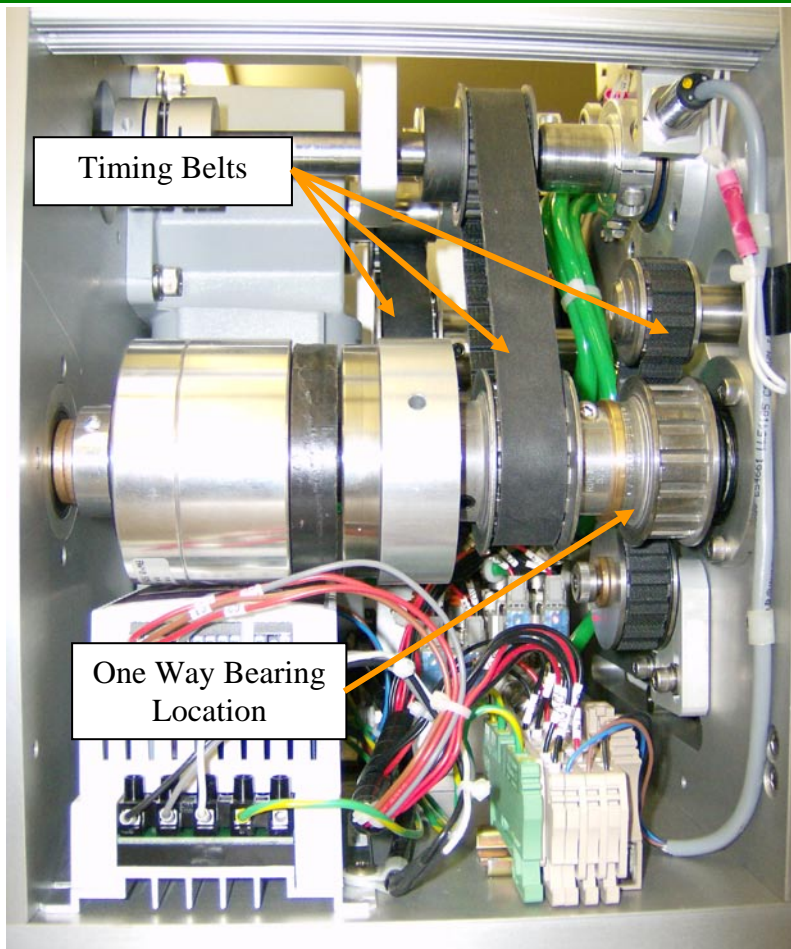

Figure G1: Printer Gearbox
1. Manually rotate Plate Cylinder in normal (printing) direction. The Impression Roll should also rotate in the proper direction. If not, the one-way bearing may need to be replaced (See Figure G1).
2. Check timing belt for proper tension, as well as missing or worn teeth. Replace if necessary (See Figure G1).
2. Check timing belt for proper tension, as well as missing or worn teeth (See Figure G1). Replace if necessary.
1. Check timing belt for proper tension, as well as missing or worn teeth (See Figures G1). Replace if necessary.